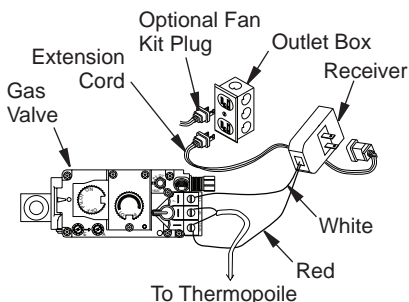

Figure 40 - Installing Remote Receiver (SKYTECH Model)
3. The receiver does not require a battery. To install, plug extension cord into one of the outlet receptacles on outlet box. Plug receiver unit into extension cord and ignition module into receiver unit (see Figure 40, page 23).